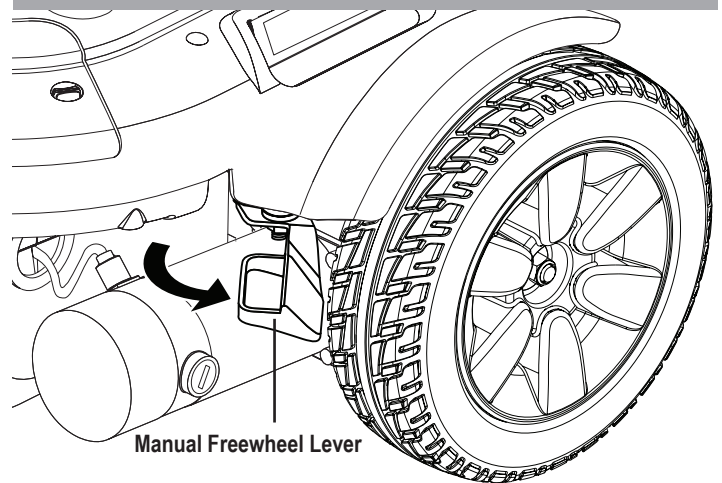

Figure 3. Freewheel Mode (Drive Disengaged)
3. Pull the two levers outward to disengage the drive motors (freewheel mode). **See figure 3.**